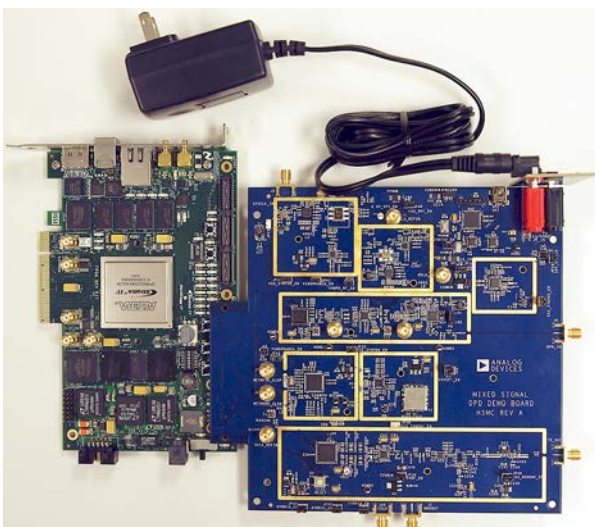

Figure 6. Altera Stratix IV and AD-MSDPDX-9434/AD-MSDPDX-6641
- b. If the Altera Stratix IV development kit is being used, connect the Altera board to the AD-MSDPDX-9434/AD-MSDPDX-6641 board via the HSMC connectors (see Figure 6).